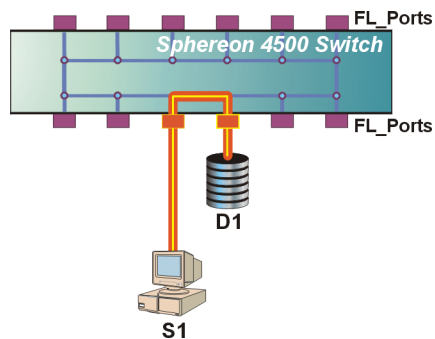

Figure 3-6 Private Loop Connectivity
- Private loop** - A private loop is not connected to a switched fabric and the switch's embedded FL_Port is inactive. All devices attached to the loop can only communicate with each other. Private loop connectivity for a Sphereon 4500 Switch is illustrated in Figure 3-6.